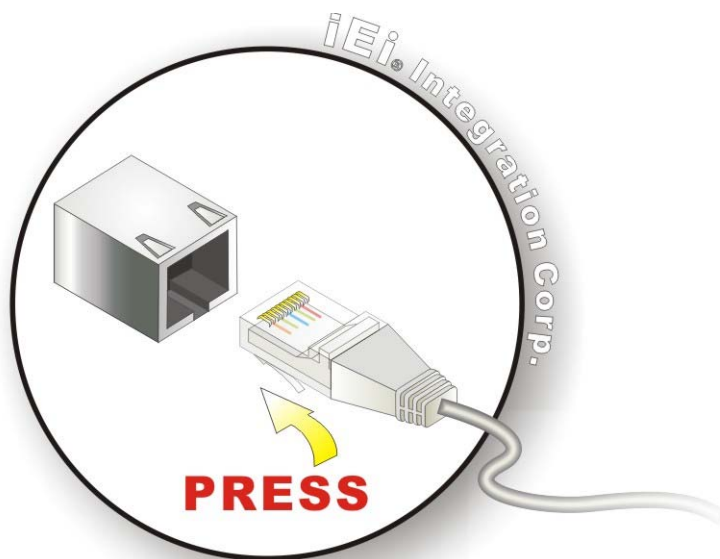

Figure 4-15: LAN Connection
Step 2: **Align the connectors.** Align the RJ-45 connector on the LAN cable with one of the RJ-45 connectors on the KINO-DA750-i2. See Figure 4-15.